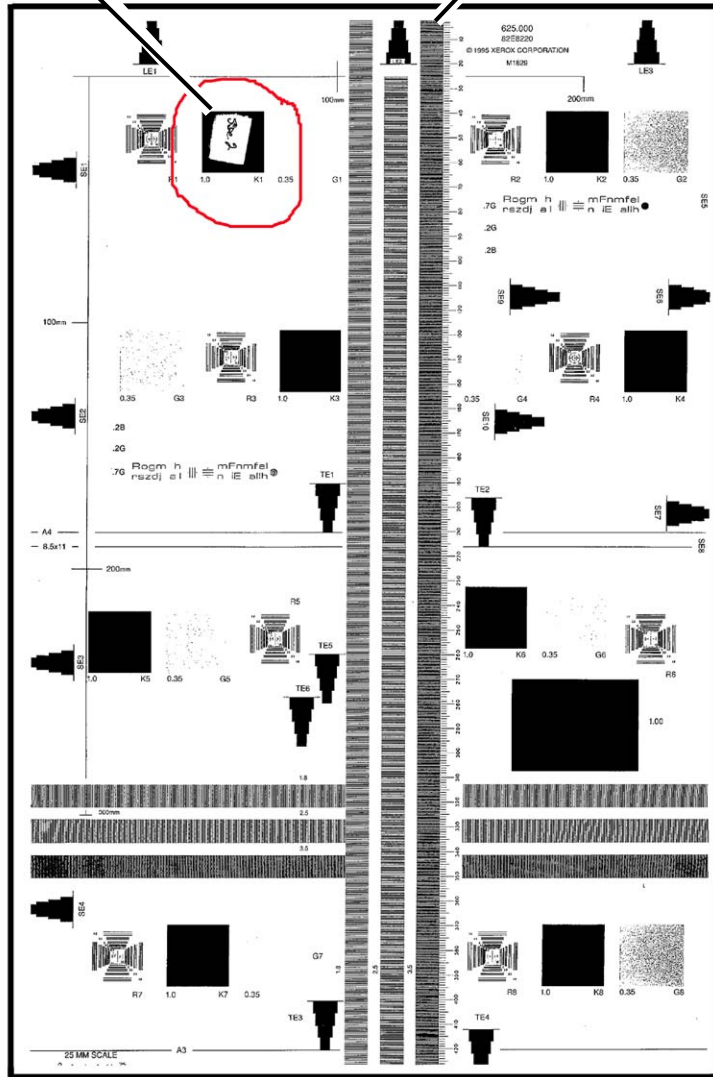

Figure 1 Identifying side 2
5. After side 1 is made, place a small piece of paper with the words side 2 written on it, onto the Document Glass and under the 82E8220 Test Pattern. (Figure 1)